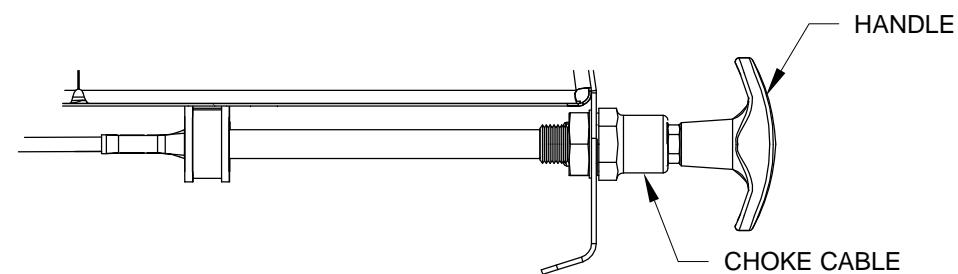

FIGURE 1:
Step 1: Move the Choke Cable handle all the way forward to the off position as shown in Figure 1.